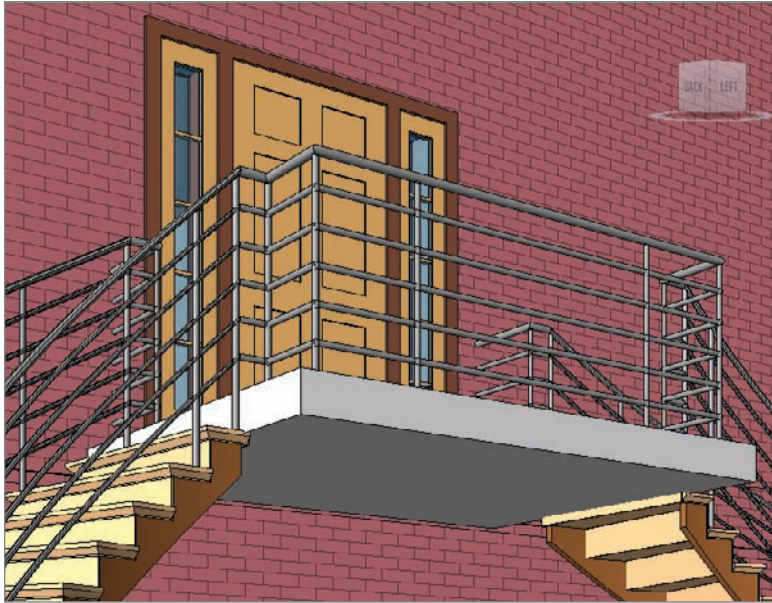

FIGURE 10.55 The completed landing
12. Add two more railings between the stairs and the brick wall. Your stairs should look like Figure 10.55.